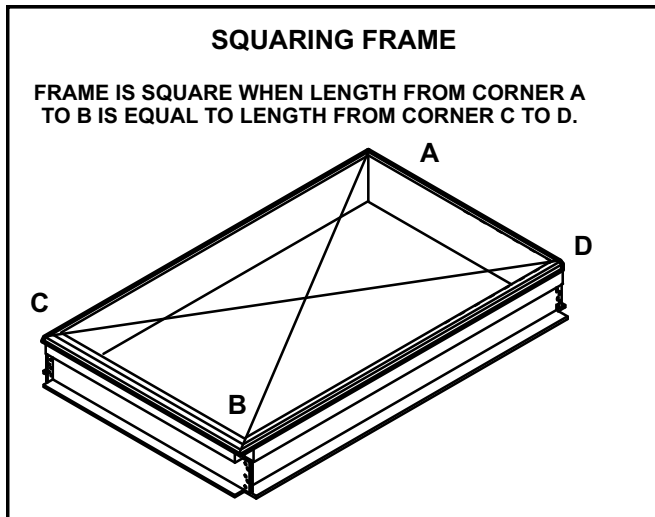

FIGURE 7
- 1- With frame situated level in desired location on roof trusses, tack weld (1) corner of frame.
- 2- Measure frame diagonally from corner to corner as shown in figure 7. These dimensions must be equal for frame to be square.